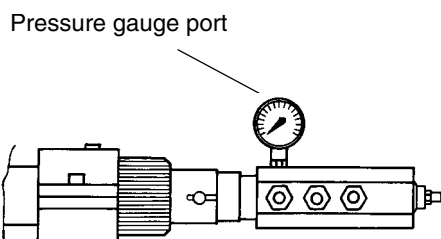

Fig. 20
- 9 the nozzle supply pressure is already factory-set and must not be changed. Only if necessary, adjust the supply pressure as follows (see related paragraph); insert a pressure gauge into the port shown on Fig. 20 and act on the pump adjusting screw **VR** (see Fig. 19 and page 15) as to get the nozzle pressure at 25bar (see page 17).